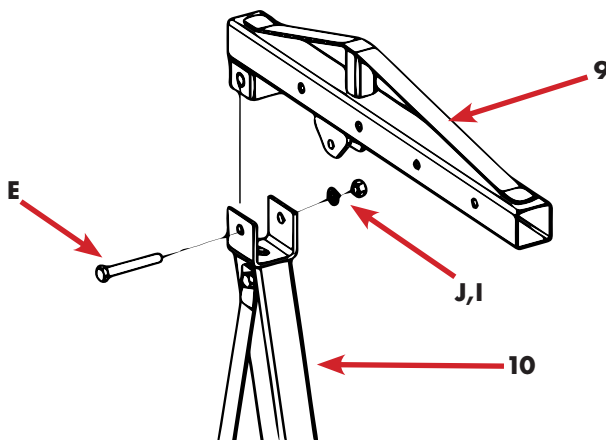

fig.13
- Mount the support arm on the top of the spar as shown in fig.13.
| Legend Figure 13 (see also from page 15, Figure 2 and Table 1) | |